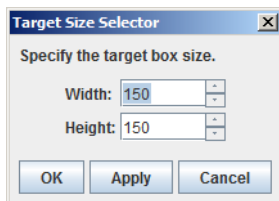

Figure 4-37 Advanced Color Calibration - Target Size
10. If necessary, change the size of the on-screen target. Click **Change Target Size**. The Target Size Selector dialog box appears (Figure 4-37). Choose the **Width** and **Height** of the target. Click **Apply** and **OK**.